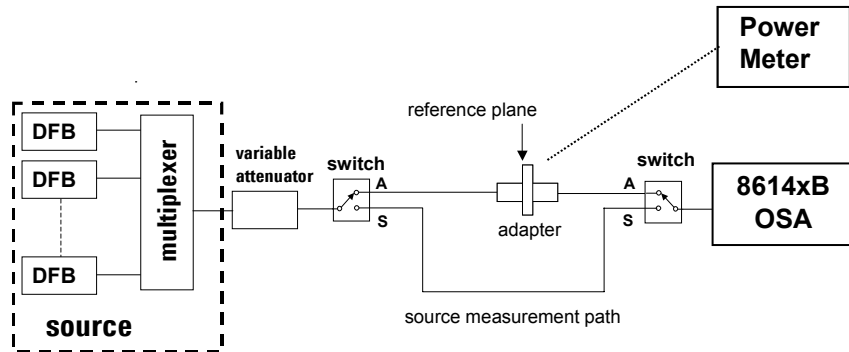

Figure 1-5. Source Path Measurement
- 1 Connect the source output and receiver input fibers as shown in Figure 1-5.
- 2 Set switches to the source path (S) positions.
- 6 Set the switches to the amplifier path (A) positions.
- 9 Connect the power meter to the adapter at the reference plane as shown in Figure 1-5. Set the power meter wavelength parameter to the source mean wavelength value.